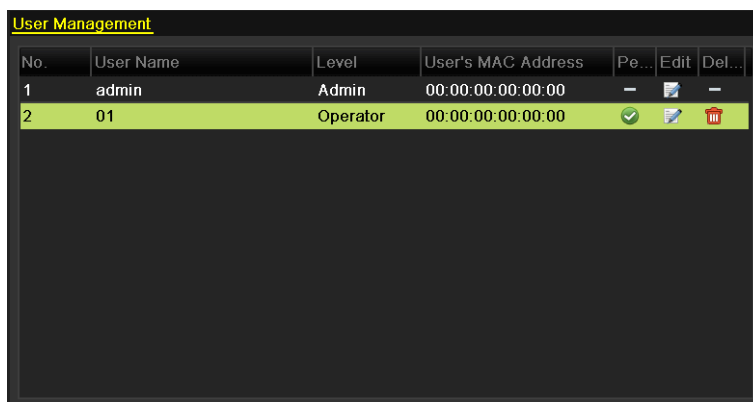

Figure 13. 7 Added User Listed in User Management Interface
4. Click the **OK** button to save the settings and go back to the User Management interface. The added new user will be displayed on the list, as shown in Figure 13. 7.